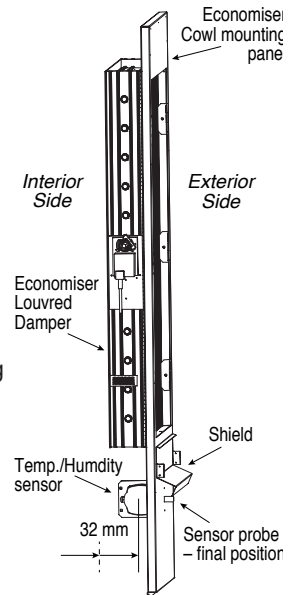

Fig.3 Fresh Air Inlet Panel - Side View
5. *Factory fitted on units with Economiser option. Sensor requires adjustment from 'in-transit' to 'final site' position.; refer figure 3.*
The *Carel* Temperature & Humidity sensor is located on the mounting bracket located on the inside wall of the economiser louvred panel and needs to be repositioned from its 'in-transit' position to its final position. Reposition the sensor body 32 mm to the right (refer Fig.3) using the holes provided, enabling the sensor probe to protrude into the outside air. This action should be carried out after the weather cowl is installed to avoid damage to the probe.
9. Check fresh air sensor in correct position (if applicable, refer figure 3 above).